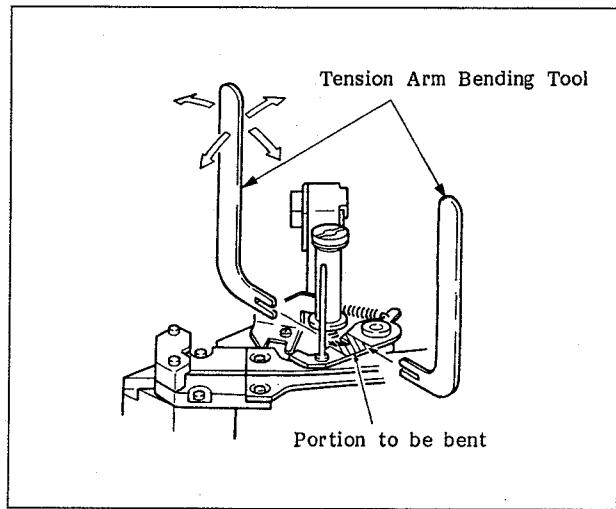

Fig. 6-54 Adjustment of the Inclination of the Tension Arm Shaft
Then, check that the clearance between the tension regulator shaft and the S plate tool in both, the upper and the lower portions is less than 50 μm . If it is not, adjust it by bending the portion shown in Figure 6-54 by the tension arm bending tool.
6. In a similar manner, check that the clearance between the tension regulator shaft and the S plate tool is less than 50 μm when the S plate tool fits against the S3 guide roller without clearance, as shown in Figure 6-53(b). If it is not, adjust it by bending the portion shown in Figure 6-54.